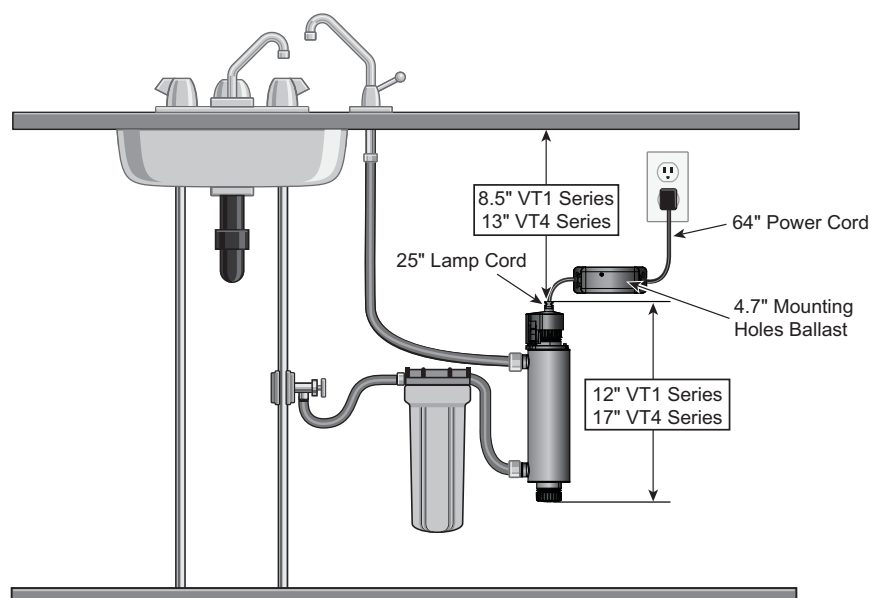

Figure 3 Disinfection System
1. Figure 3 shows the installation of a typical point of use (POU) system and the related components that may be used for the installation. The use of a by-pass assembly is recommended in case the system requires off-line maintenance. In this case, note the system requires a supplementary disinfection for the distribution system if any water is used during by-pass condition. In addition, during by-pass, the water will NOT be disinfected and a “DO NOT CONSUME THE WATER” tag should be physically installed on the by-pass assembly until such time as the system is sanitized and returned to service. For more information, refer to Section 3.2. If the water is to be consumed while the system is off-line, the water must be boiled for two minutes prior to consumption.